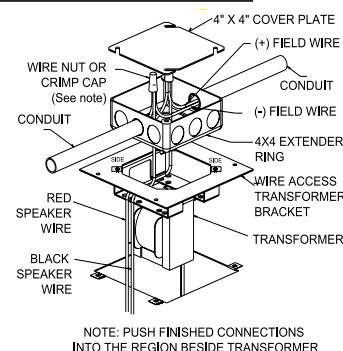

Fig. 5: Transformer Settings (100W)
- TRANSFORMER SETTINGS (Fig. 5):